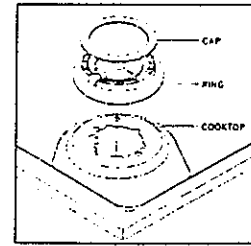

Fig. 6
- First, they must be installed correctly, as seen in Figure 6.